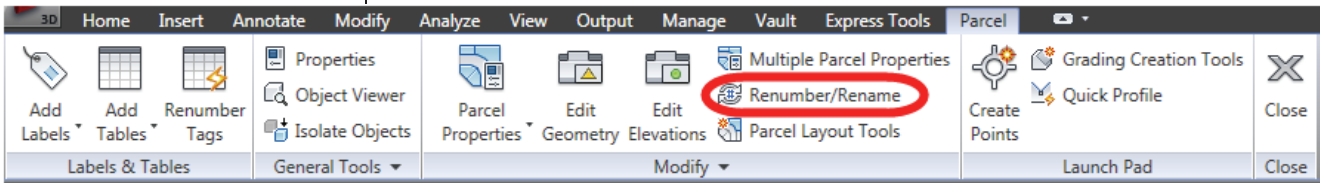

Figure 2–36
6. In the Renumber/Rename Parcel dialog box, select the **Rename** option. Select the **Specify the parcel names** option and click , as shown in Figure 2–37.